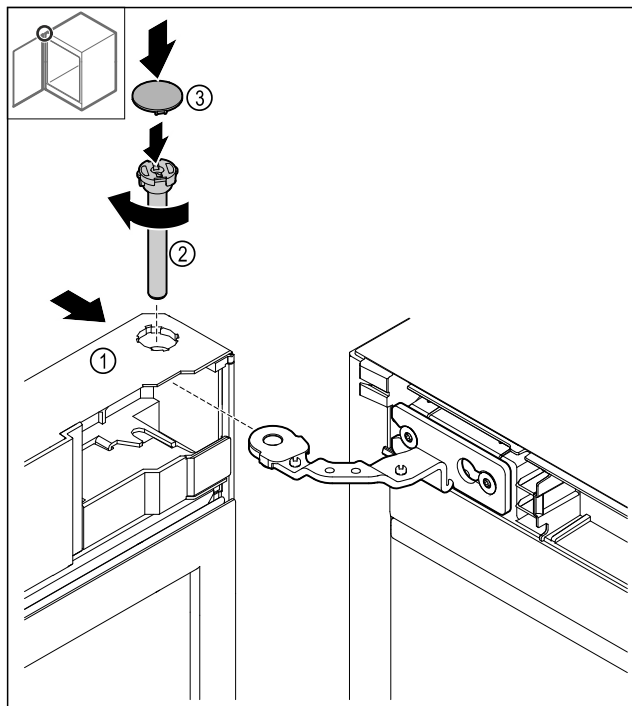

Fig. 43
- ▶ Slide the door Fig. 43 (1) onto the top hinge.
- ▶ Insert the bolt Fig. 43 (2) and turn it clockwise to tighten.
- ▶ Put on the cover Fig. 43 (4).